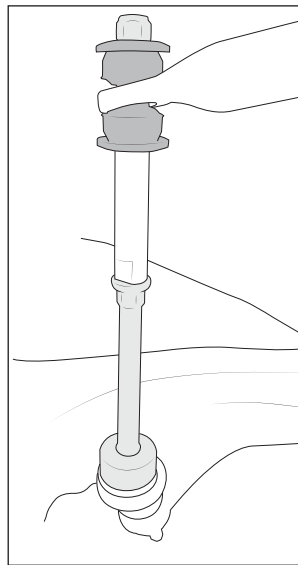

Figure 13
16. Install sway bar endlink extensions onto factory endlinks and torque to 16 ft-lb. Reinstall washers, bushings, and nuts to secure sway bar to new endlink extensions. Torque nut to 16 ft-lb. (fig. 13).